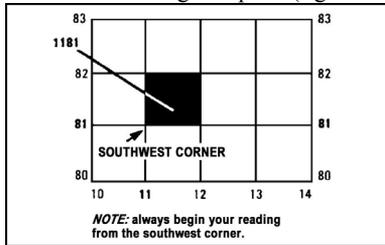

Figure 071-329-1002-1. Identifying the grid square
1. Determine the coordinates of the grid square (figure 071-329-1002-1).
- a. Select the grid square that contains the identified point on the map (see figure 071-329-1002-1).
- b. Read the north-south grid line that precedes the desired point (see figure 071-329-1002-1).